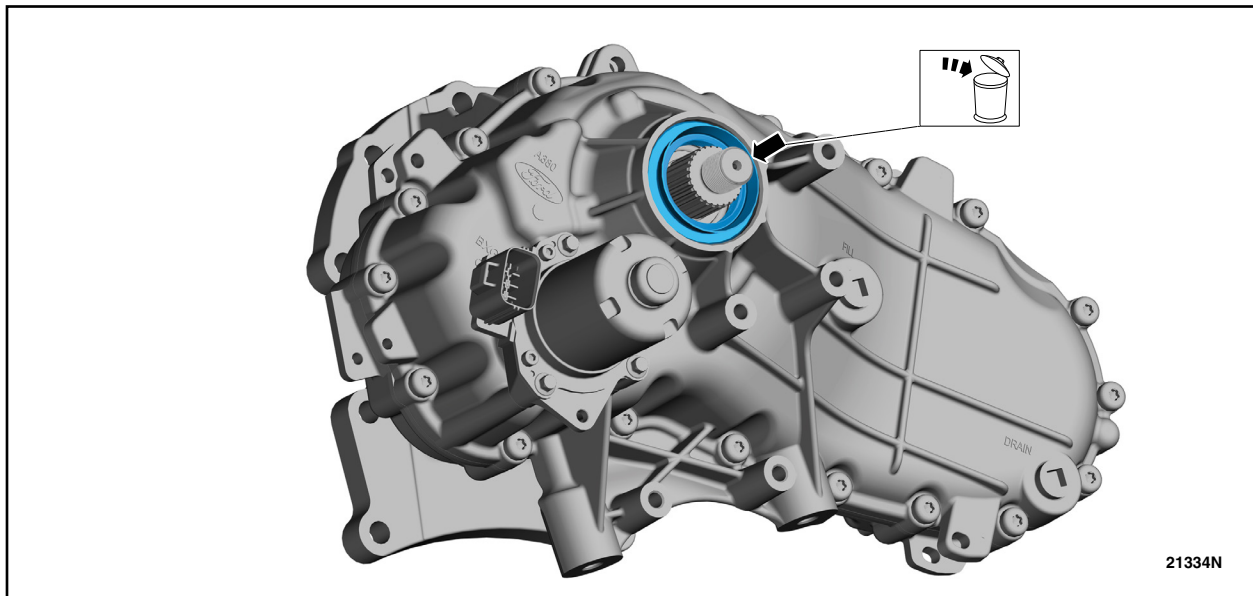

FIGURE 13
24. Remove and discard the transfer case rear output shaft seal. See Figure 13.